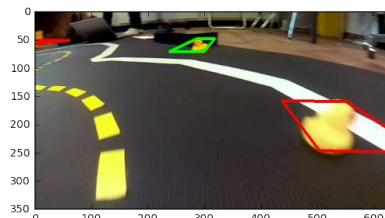
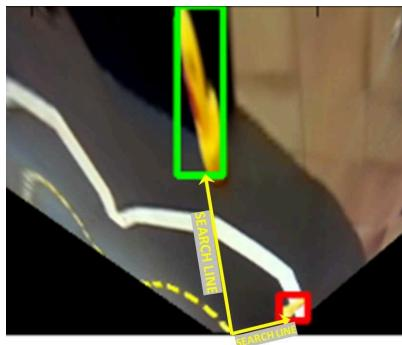

Figure 13.15. Classification if objects are dangerous or not
Figure 13.16. Search lines to infer if something white is in between
8. Towards the end of the project we came up with one additional last step based on the idea that only obstacles inside the white lane boundaries are of interest to us. That is why for each obstacle, we look whether there is something white in between us and the obstacle. In Figure 13.15 you can see an example situation where the obstacle inside the lane is marked as dangerous (red) while the other one is marked as not of interest to us since it is outside the lane boundary (green). In Figure 13.16 you see the search lines (yellow) along which we search for white elements.